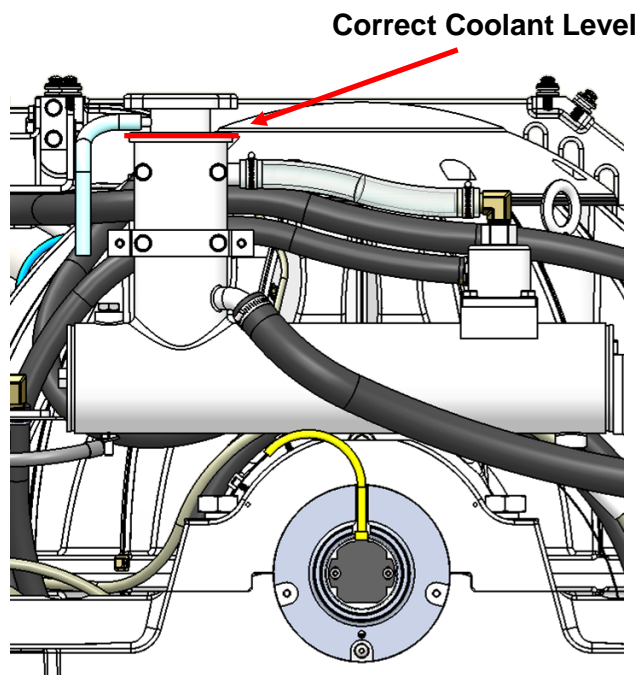

FIGURE 3 – SEAKEEPER 9 COOLANT LEVEL
- 3) Remove pressure cap on top of reservoir. Pour mixture in until level reaches top of clear tube between thermostatic valve and reservoir as shown in Figure 3. Filling reservoir above this level will not cause any damage but coolant may be expelled from pressure relief port below cap due to normal thermal expansion of coolant.
- Recheck glycol level with fluid circulating in coolant circuit. Sight down inside reservoir and check that coolant level is above upper port on reservoir as shown in Figure 3. Replace cap.